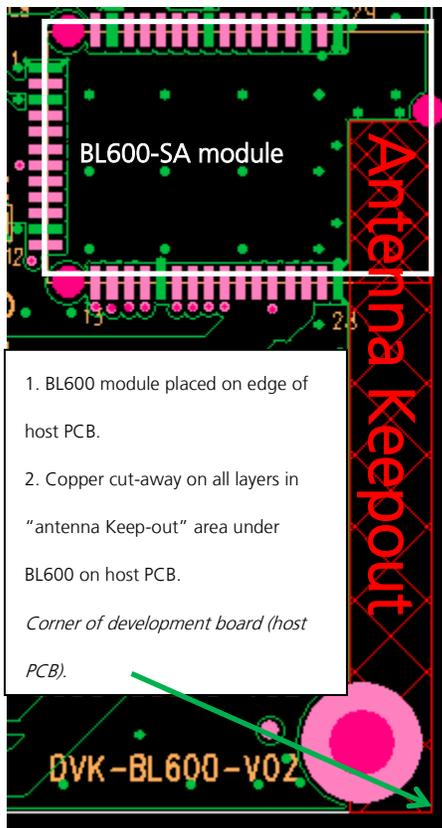

Figure 10: Antenna keep-out area (shown in red) used on the BL600 development board for BL600-SA module.
- The BL600 development board has the BL600-SA module on the edge of the board (not in the corner). The antenna keep-out area is defined by the BL600 development board which was used for module development and antenna performance evaluation is shown in Figure 10, where the antenna keep-out area is ~4.2 mm wide, 34.2 mm long; with PCB dielectric (no copper) height 1.539mm sitting under the BL600-SA antenna.
- The antenna-keep-out defined in the section *PCB land pattern and antenna keep-out area for BL600-SA* is for case when BL600-SA is placed in the corner of host PCB. When BL600-SA cannot be placed in corner of host PCB, then MUST place on the edge of the host PCB then cut-away copper (on all layers of host PCB) from the corner to the location of the BL600-SA antenna. For example Figure 10 shows what was done on the BL600 development board.
- Follow the 50-Ohms trace design used on the BL600 development board (PCB stack-up in Figure10). If this PCB-stack-up is not practical on customer design then design 50-Ohms for differing PCB stack-up.
4. BL600 development board has BL600-SA placed on the edge of the PCB board (and not in corner) for that the Antenna keep out area is extended down to the corner of the development board, see section PCB Layout on Host PCB for BL600-SA, Figure10. This was used for module development and antenna performance evaluation.